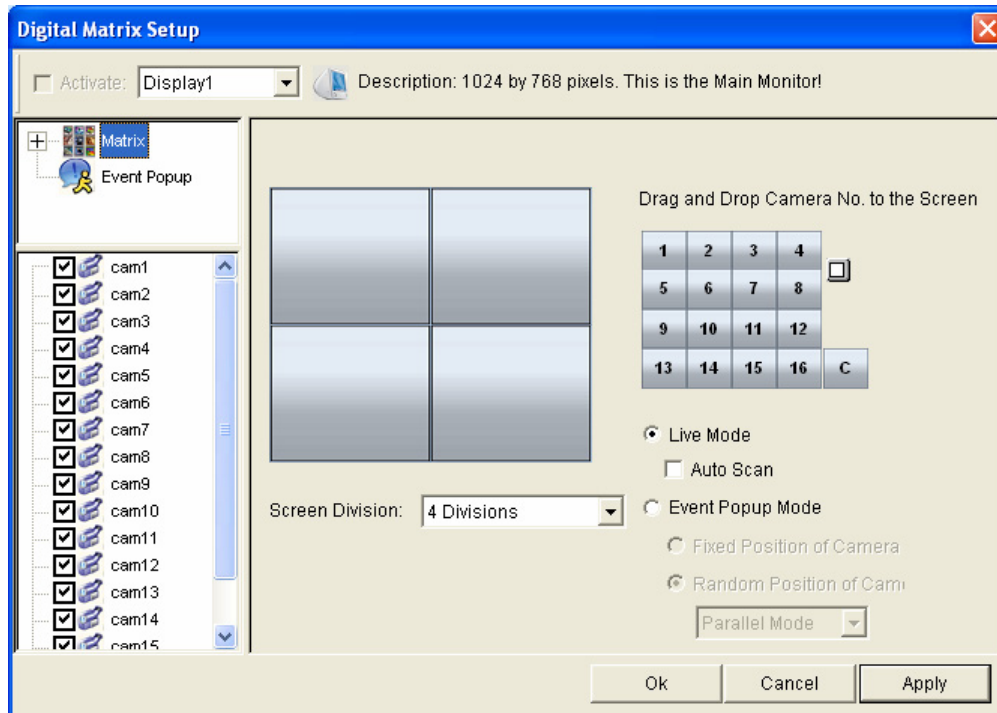

Figure 3-29
9. In the upper-left column, click the **Matrix** icon and return to Figure 3-29.
4. After above settings, click the **Matrix** icon and return to Figure 3-29.
4. Click the **Matrix** icon and return to Figure 3-29. Ensure the **Live Mode** option is selected.